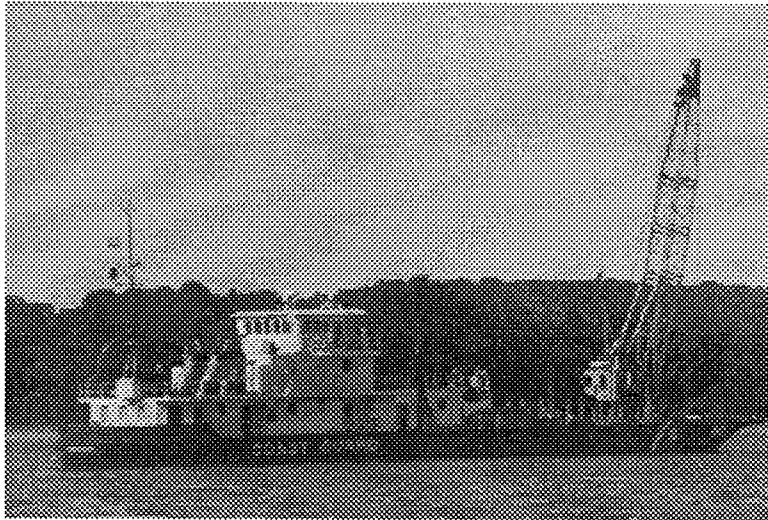

Figure 9-1 WLIC
1. Overview. All of these vessels (See Figure 9-1) have a forward mounted boom and work buoys over the side. The capabilities of the tender may vary, but procedures are generally the same. There are several of the older WLICs that push a barge but can also perform the WLI mission independent of the barge.